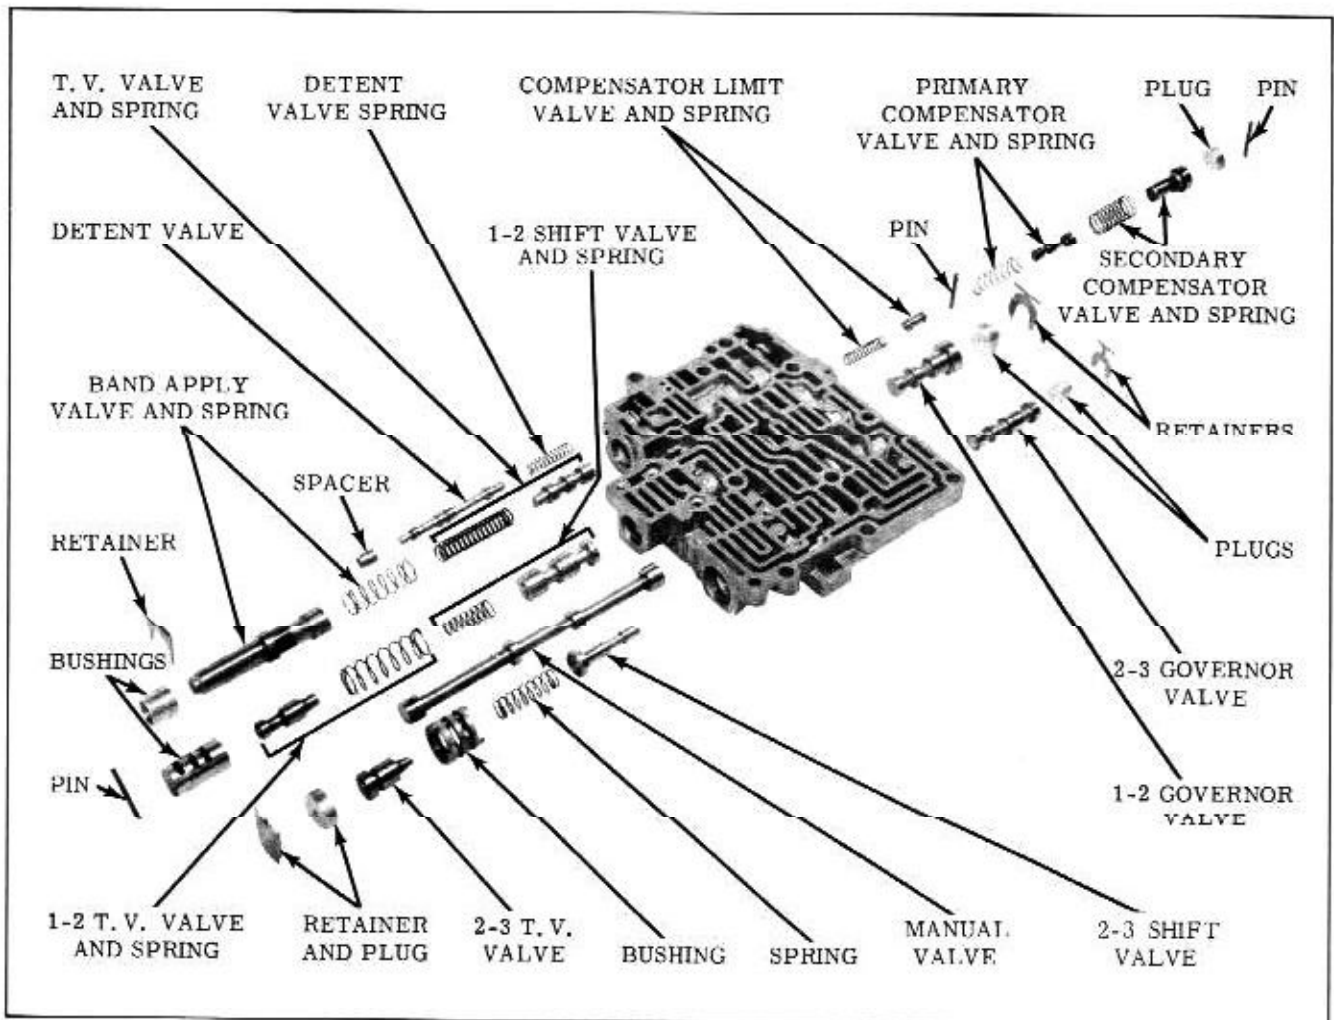

Fig. 3-89 Primary Valve Body
Assembly of Primary Valve Body (Fig. 3-89)
3. Install detent spring and valve, long stem first, into the primary valve assembly. (Fig. 3-89)